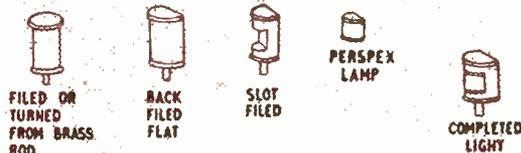

FIG. 1. NAVIGATION LIGHTS
**A** VERY simple yet authentic looking ship's navigation light can be made as in Fig. 1. From brass rod of suitable diameter for the scale of your model, turn a blank as shown. One side is then filed flat and the slot to take the lens is filed in the curved front. The actual lamp is then turned and filed flat on one side and cemented into position in the brass lamp holder. This method gives a very accurate representation of such lights. For each ship model you will have to make the lamps alternate colours. Use coloured perspex or else colour the perspex, the colours being red and green.